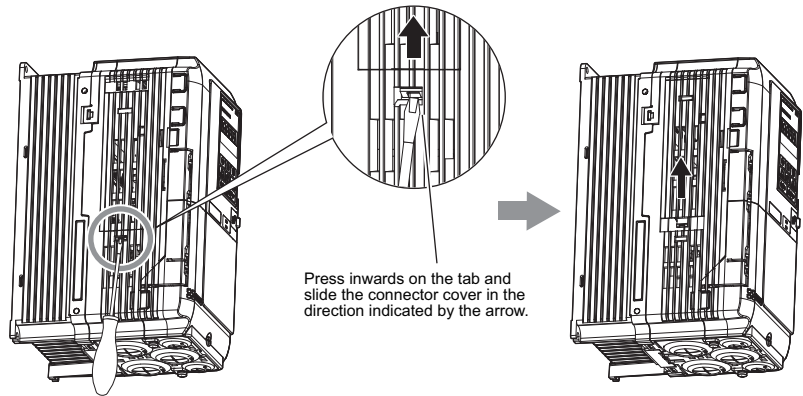

Figure 4.29 Removing the Connector Cover
1. Insert the tip of a screwdriver into the opening on the edge of the CN19 connector cover. Slide the cover off the drive as indicated in Figure 4.29.